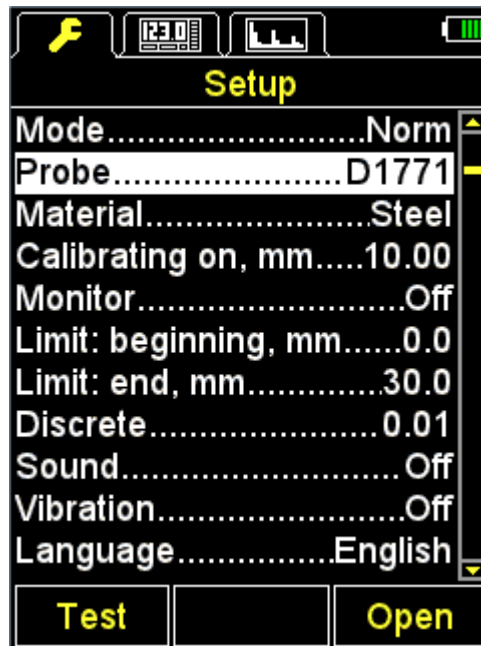

Figure 15
– using the   keys switch to the PT option and press F3 key (Open) or  to enter the library of the transducers (Figure 15).